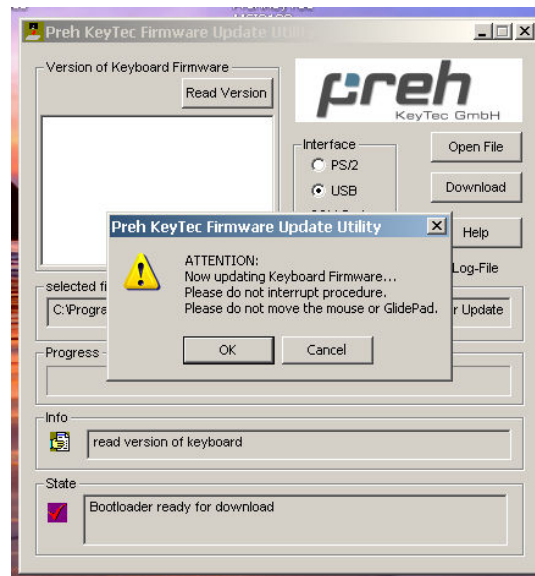

Figure 4
- a. Note Warning pop up window as in Figure 4. Click OK and allow download to proceed.